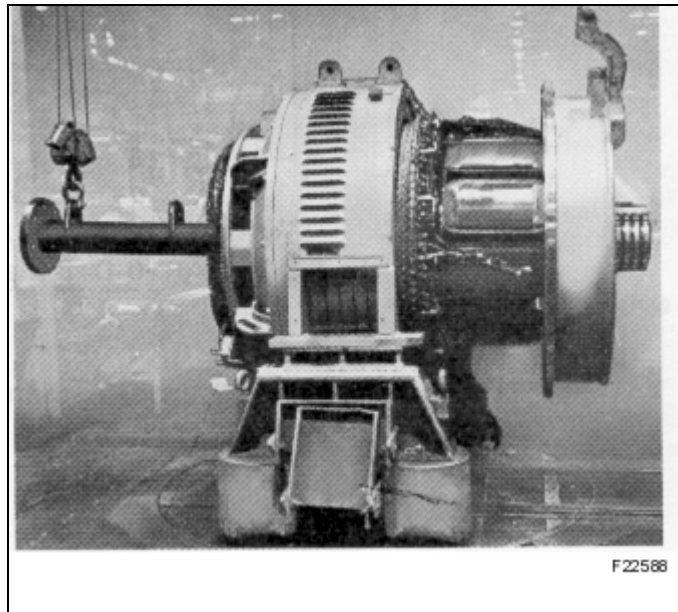

Figure 35 Removing Rotor and End Housing from Stator
12. Carefully remove rotor and end housing assembly from stator, moving it towards bearing end of assembly until it clears stator, Figure 35.